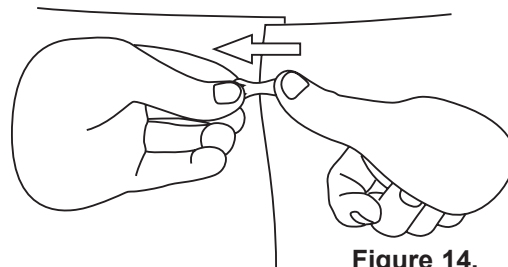

Figure 14.
- Press down on the hooked section while you pull it across, stretching the carbon pre-filter tighter. as shown in figure 14.